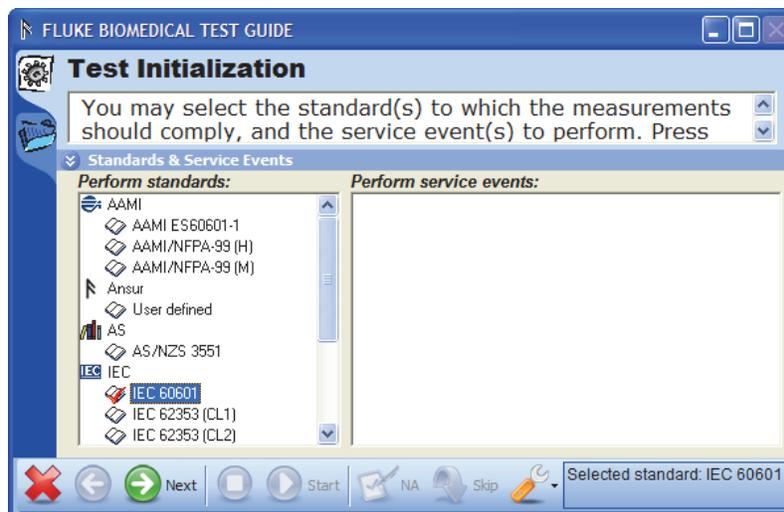

Figure 3-5. Test Initialization Window
2. Select the standard from the list in the Test Initialization window shown in Figure 3-5 that agrees with the selected test template. For example, if IEC 60601 test template is opened, then select IEC 60601 standard and cancel the Ansur User Defined standard that is set by default.